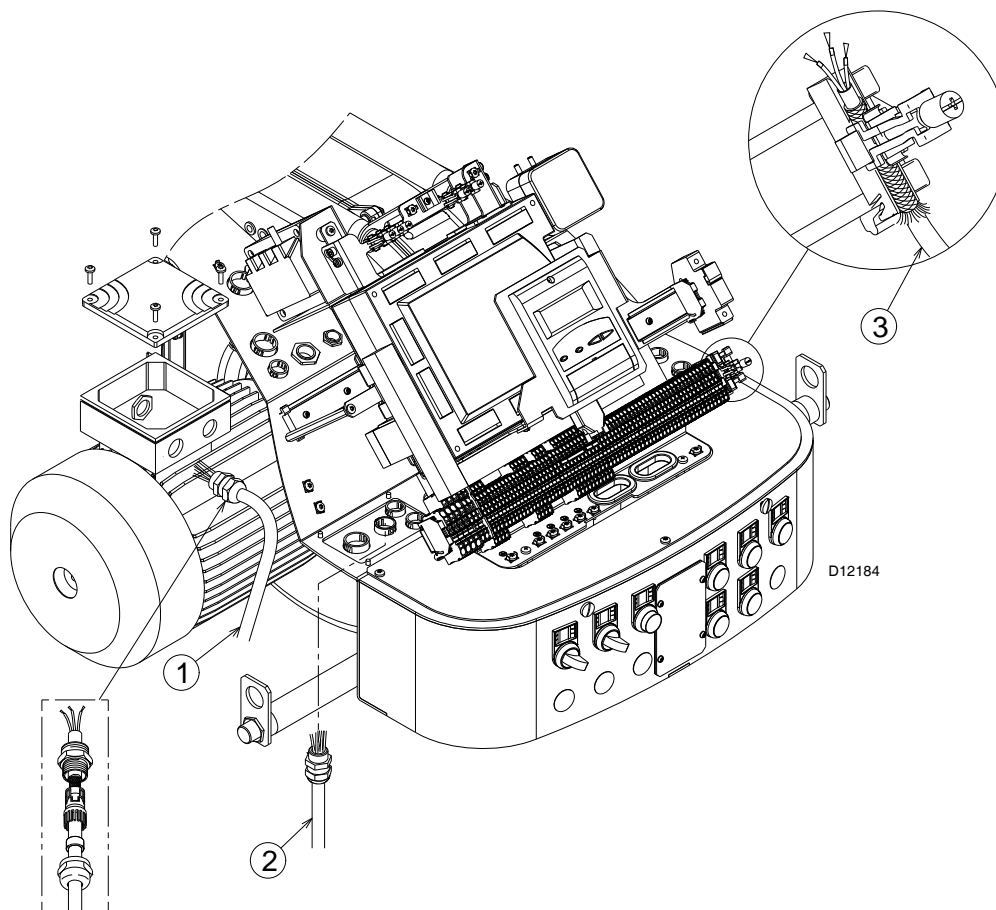

Fig. 24
- shield the motor cable 1) as shown in Fig. 24.
- fix the cable shielding as shown in Fig. 24.
The connection from the Inverter to LMV52... must be done as shown in Fig. 24.
Key (Fig. 24)